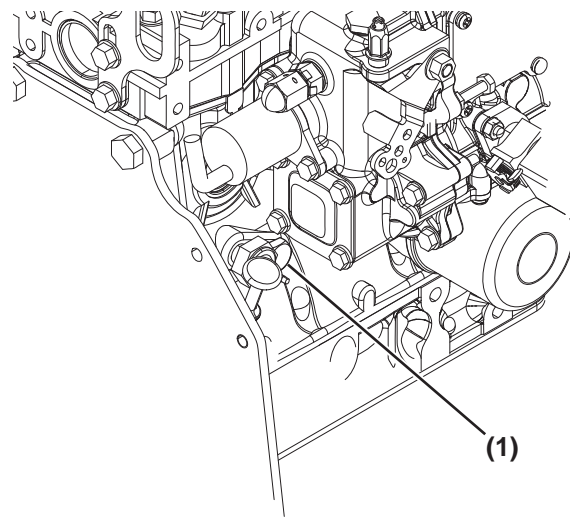

Figure 5-16
4. Drain the coolant from the engine block. Remove the coolant drain plug (**Figure 5-16, (1)**) from the engine block.